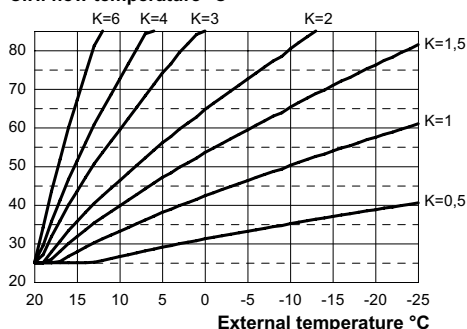

Fig. 8.6
If the boiler is **EQUIPED** with the remote control (optional) refer to Fig. 8.6. In this case K setting must be done from the remote control.
The K coefficients is a parameter that increases or reduces the boiler flow temperature when the outside temperature changes. When installing the external probe it is necessary to set this parameter based on the efficiency of the heating system in order to optimize the flow temperature (Fig. 8.6).
E.g. In order to have a flow temperature at the heating system of 60°C with an external temperature of -5°C, set a K at 1.5 (sectioned line in Fig. 8.6).
- Using keys 13 or 14 it is possible to change the value of parameter 15 from a minimum of **01** to a maximum of **60** based on the selected bend of the K coefficient in Fig. 8.6 (the value read on the display corresponds to K coefficients decimal values).